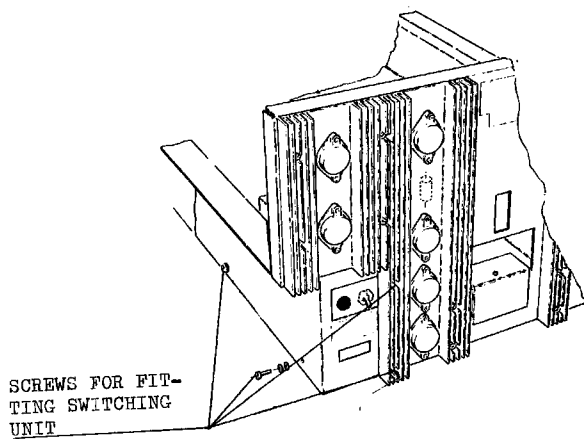

Fig. 7-41 REAR PANEL
5.20 SWITCHING UNIT (fig 7-41 and 7-42)